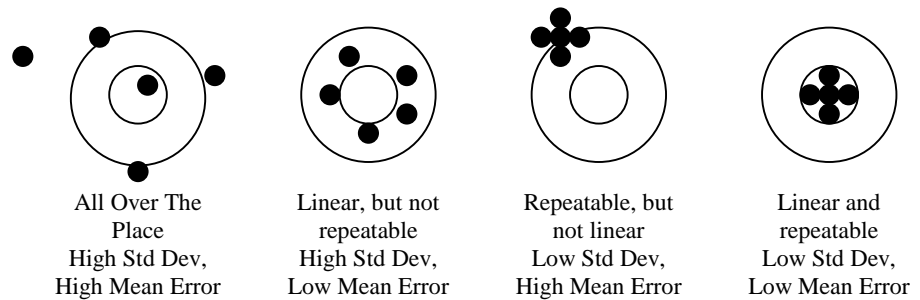

Figure 0-3: Accuracy as Shots at a Target
Figure 0-3 compares a scale to a target. Each hit symbolizes one weighing of a particular item. Imagine you are testing four checkweighers by weighing an item 5 times on each. In the diagram below, the center of the target symbolizes the static weight of the item measured on a calibrated static scale. The first checkweigher is neither repeatable nor linear, and the weights are scattered.